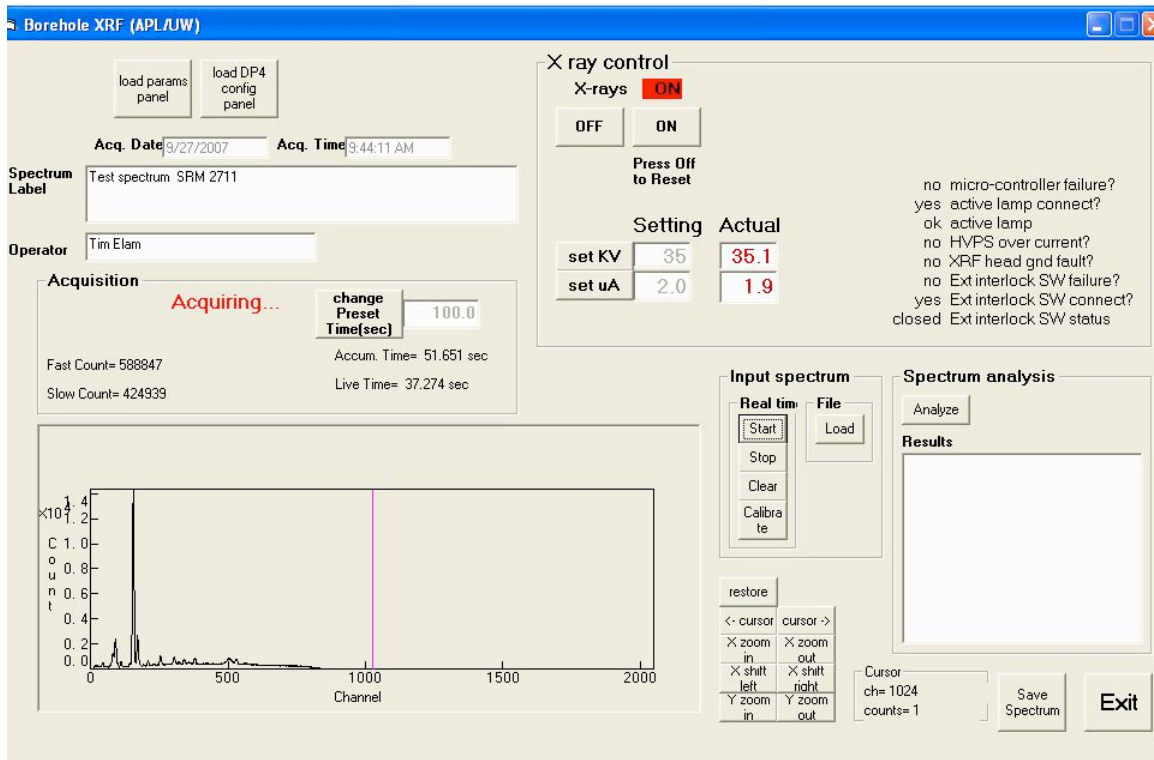

Figure 5. View of laptop display during spectrum acquisition
8. “Acquiring” will appear in red on the screen (Figure 5).
9. A spectrum will begin to appear in the plot box in the lower left corner of the interface (Figure 5).